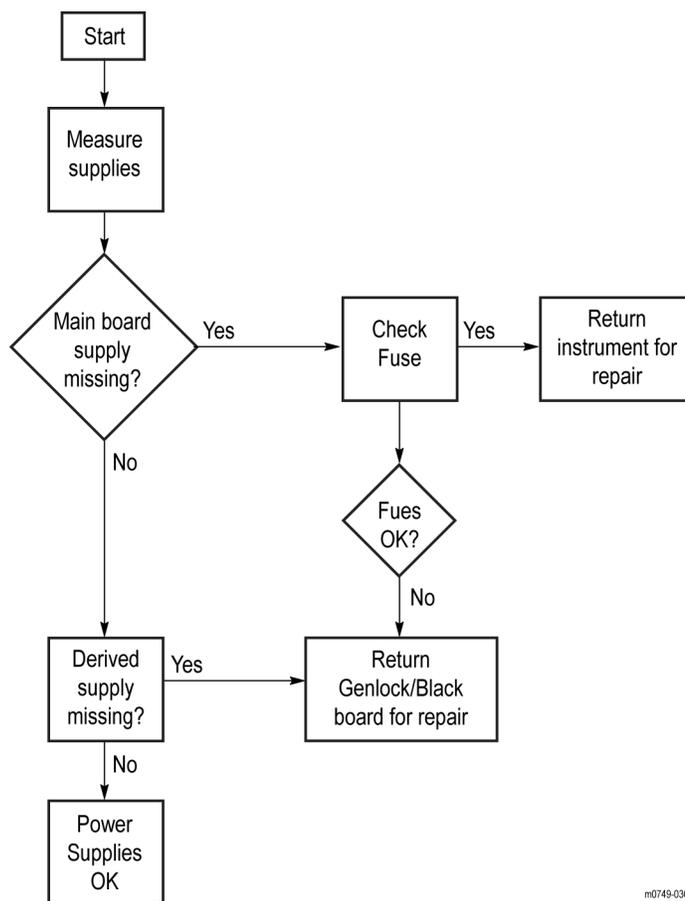

Figure 25: Genlock/Black generator module power supply test
2. Use the following flowchart and table of power supply test points to determine if the Genlock/Black generator power supply is operating correctly. (See Figure 25.) (See Table 21.)